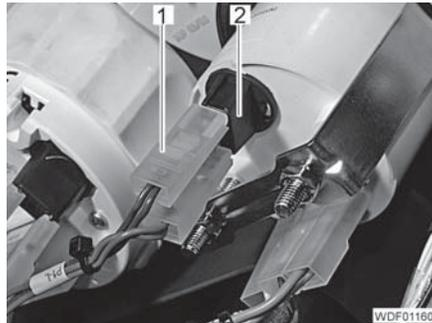

Fig. 461 Instrument lighting
- Remove the 2 plugs (Fig. 461,1).
- Rotate the locking mechanism (Fig. 461,2) counter-clockwise and remove it.
- Carefully insert the locking mechanism (Fig. 461,2) into the instrument and rotate clockwise until it locks.
- Attach the 2 plugs (Fig. 461,1) to the contacts.